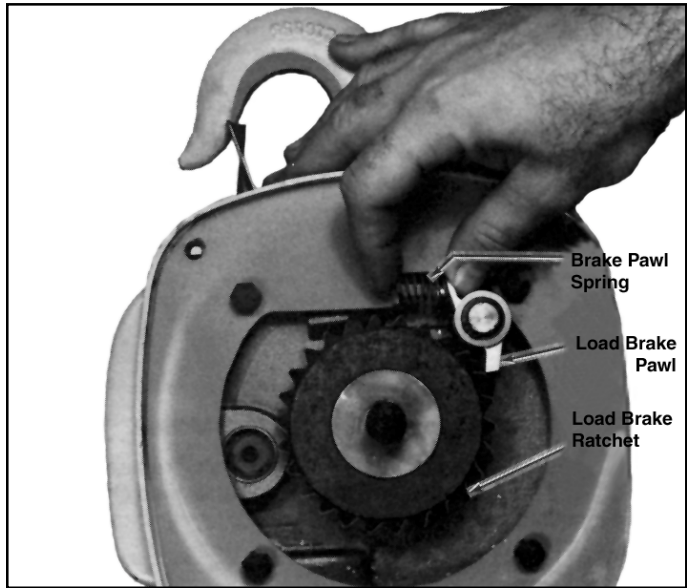

Figure 7-5. Installing Load Brake Pawl
a. Pull two friction washers and brake ratchet off shaft of brake flange while holding brake pawl open. See Figure 7-5.
b. After the load brake flange is in place, the order of assembly is; friction washer, then ratchet, then second friction washer. On the 1/4 and 1/2 ton models only, the friction washers are of different diameters. The large diameter friction washer goes on first, followed by the ratchet and then the smaller diameter friction washer. On the other models the light colored woven friction washer goes on first, followed by the ratchet and then the dark colored molded friction washer. The brake pawl and spring are then installed. The brake pawl spring has a closed end. On 1/4 and 1/2 ton hoist models, the open end must be installed to the pawl. On other models, the closed end must be installed to the pawl. The open end of the spring on 1 and two load chain 2 ton models goes against the adapter assembly. See Figure 7-5.